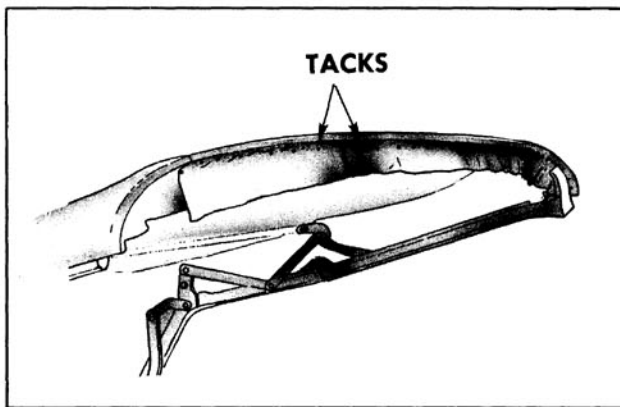

Fig. 16-453 Installation at Front Roof Rail
49. Unlock top from windshield header and apply nitrile cement or neoprene-type weatherstrip adhesive to tacking area of front roof rail and corresponding surface of top material. Pull top trim material slightly forward so that pencil marks are on underside of front edge of front roof rail. Fasten top trim to cemented area and stay tack trim to rail. (Fig. 16-453)
29. Unlock top from windshield header and apply nitrile cement or neoprene-type weatherstrip adhesive to tacking area of front roof rail and corresponding surface of top material. Pull top trim material slightly forward so that pencil marks are on underside of front edge of front roof rail. Fasten top trim to cemented area and stay tack trim to rail. (Fig. 16-453)